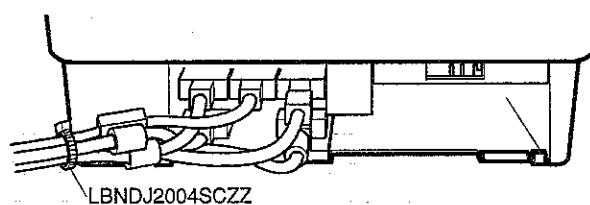

Fig. 7
- 1) The picture below shows how to pull out the cables from the left side. (Fig. 7)